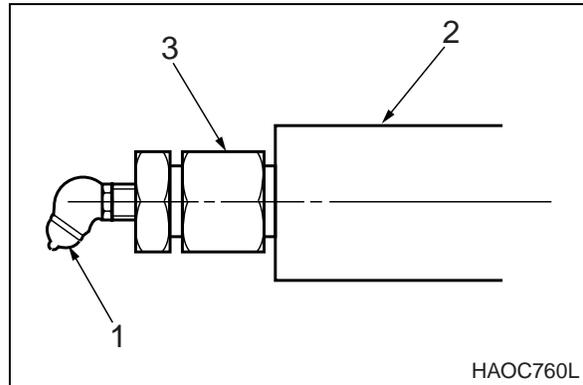

Figure 101
- Track tension adjustments are made through the grease fitting (1, Figure 101) in the middle of each side-frame. Adding grease increases the length of an adjustment cylinder (2). The longer the adjustment cylinder, the greater the pressure on the tension spring pushing the track idler wheel outward.
- If there is not enough slack or clearance in the tracks and the adjustment is too tight, the idler wheel and adjusting cylinder can be retracted by bleeding off grease through hole in adjustment cylinder (2, Figure 101) by loosening valve slowly (3, Figure 101).
Do not loosen or remove the grease fitting (1, Figure 101) until the pressure is entirely bleed off by loosening valve (3, Figure 101) slowly.